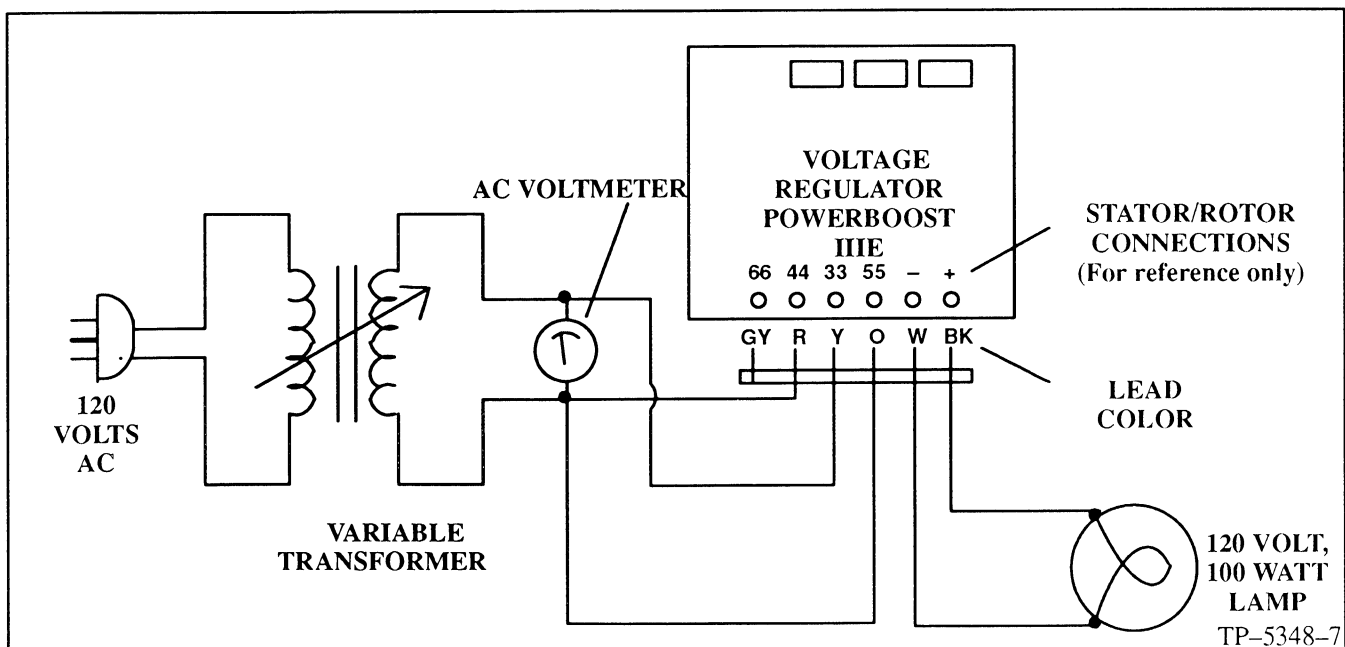

Figure 7–3. PowerBoost IIIE Voltage Regulator Test
1. Connect components as shown in Figure 7–3.